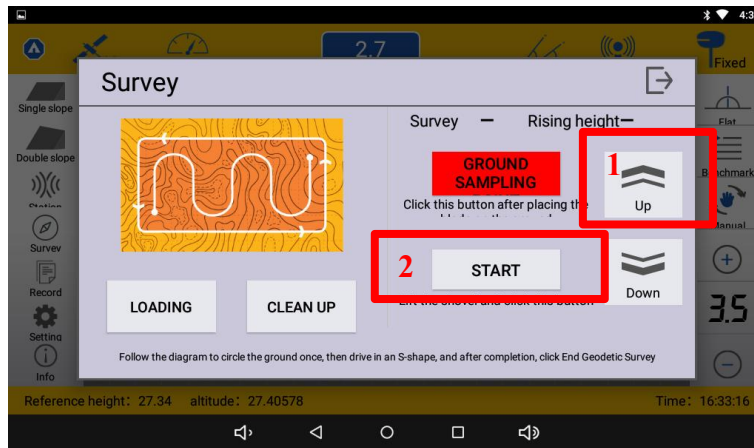

Figure 21
Step3. Click the Up button and click the START button. (Figure 21)